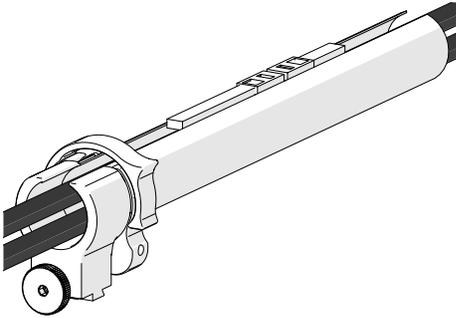

Fig. 72 - Zip opposite end
3. Once the cable is placed the entire length of the tube, bring the zipper from the tube's opposite end, meeting at any point in the middle (Fig. 72).